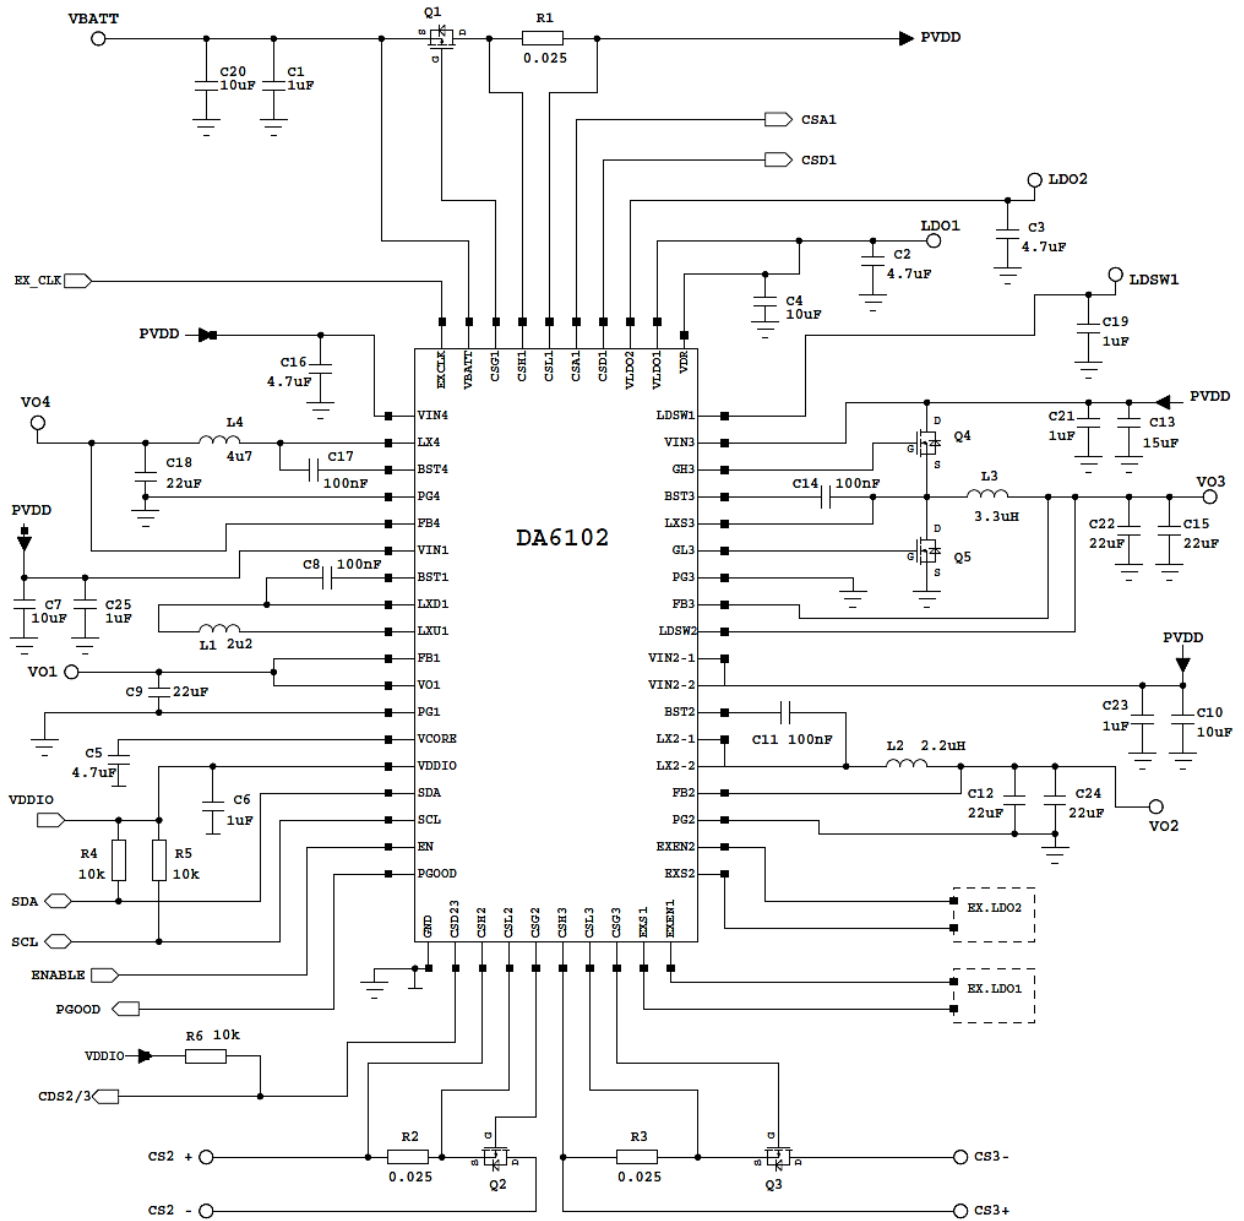

Figure 25: Typical Application Schematic
External components are as shown in Figure 25, VBATT = 7.4 V, TA = 25 °C
Unless otherwise noted, VBATT = 7.4 V, TA = 25 °C, external components as shown in Figure 25.
**Complete device functionality is described in detail below, where all component references refer to the Figure 25 schematic and register references refer to the register map in Table 13.**